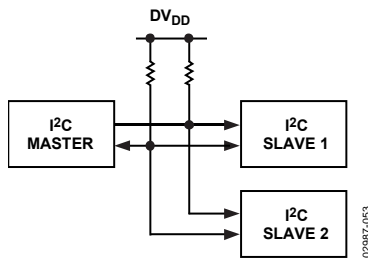

Figure 64. Typical I²C System
- An I²C master can communicate with multiple slave devices. Because each slave device has a unique 7-bit address, single master/slave relationships can exist at all times even in a multislave environment (Figure 64).